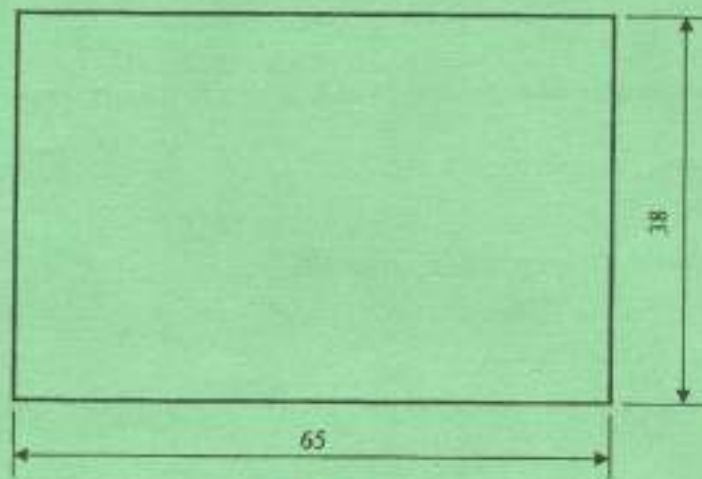

Fig. 2
6. (a) **Figure 2** shows a rectangle of sides 38 mm and 65 mm. Construct a square equal in area to the rectangle. (5 marks)